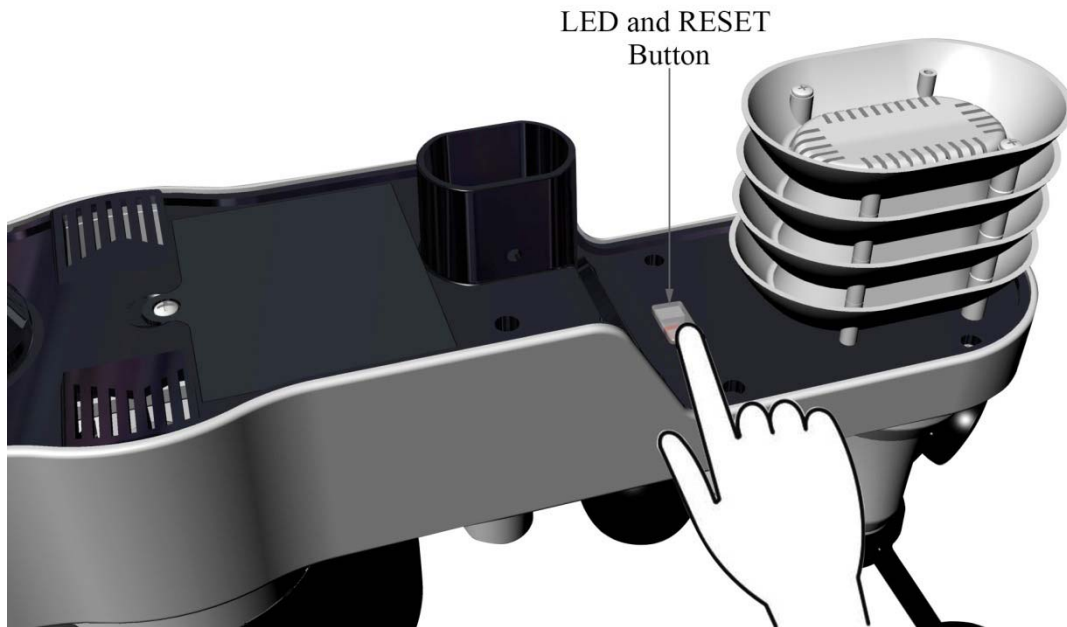

Figure 6
**Note:** If the sensor does not power up after inserting the batteries, press the reset button shown in Figure 6.